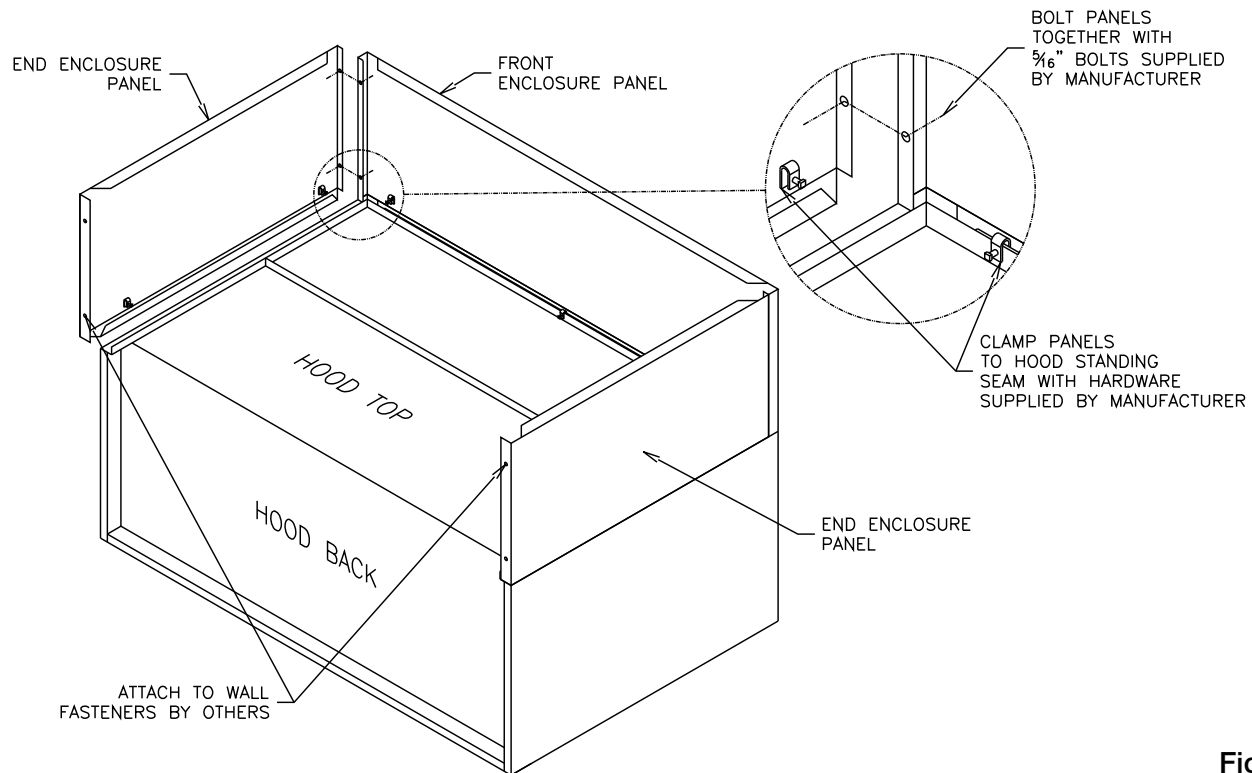

Fig. 19
1. Position the end enclosure panels on the hood, and clamp into place with clamps provided or tack-weld the panels into place (Fig 19).